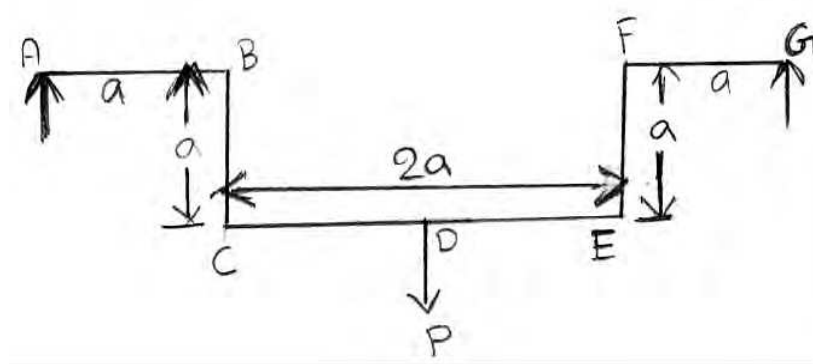

Figure 5:
5. Find the central deflection of the uniform bend ABCDEFG shown in figure 5 by using Castiglano theorem. [16]